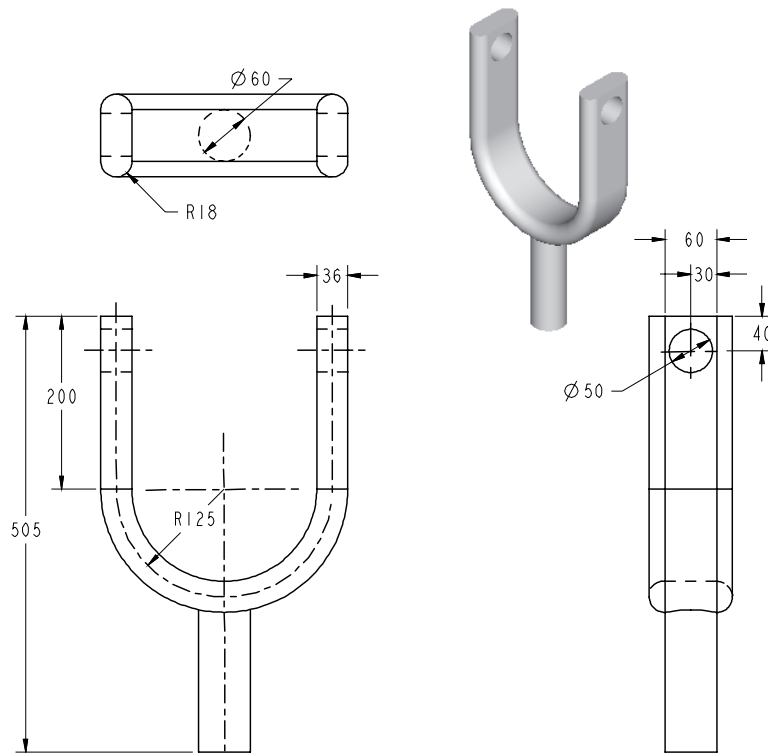

Figure 7-45 Top, front, right side, and isometric views of the model
In this tutorial you will create the model shown in Figure 7-45. This figure also shows the front view, top view, and the right-side view of the solid model with dimensions.
- a. First, examine the model and determine the number of features in it. The model is composed of three features, see Figure 7-45.